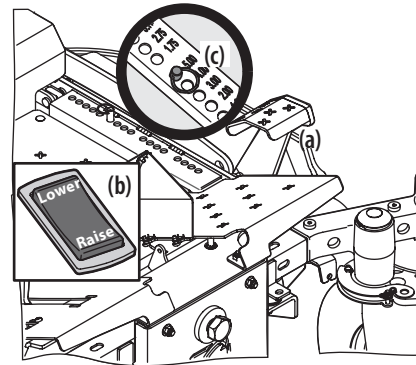

Figure 3-6
1. Use the deck lift pedal (a) or push down on the back of the electric deck lift switch (b) to raise the deck to its highest position, place the clevis pin (c) attached to the tractor into the desired index hole on the deck height index, then slowly release the deck lift pedal (a) or slowly lower the deck by pressing down on the front of the electric deck lift switch (b). See Figure 3-6.